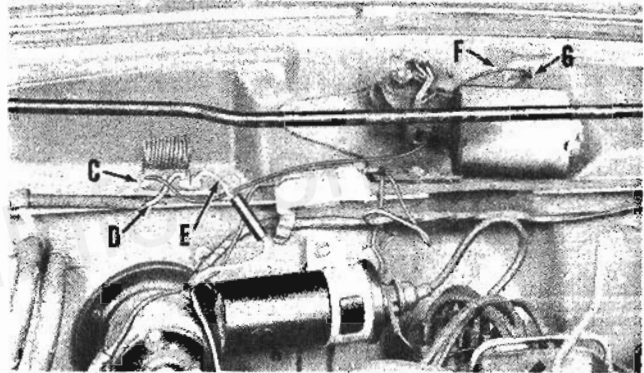

FIG. 2
3. Mount the retainer on the dash flange using 2 screws in the location shown on Fig. 2. The inner mounting hole should be 3" to the right of the ignition primary resistor mounting screw hole. The front edge of the heater resistor bracket should be flush with the front edge of the dash flange. Drill a 5/32" diameter hole for the screws furnished in the kit.